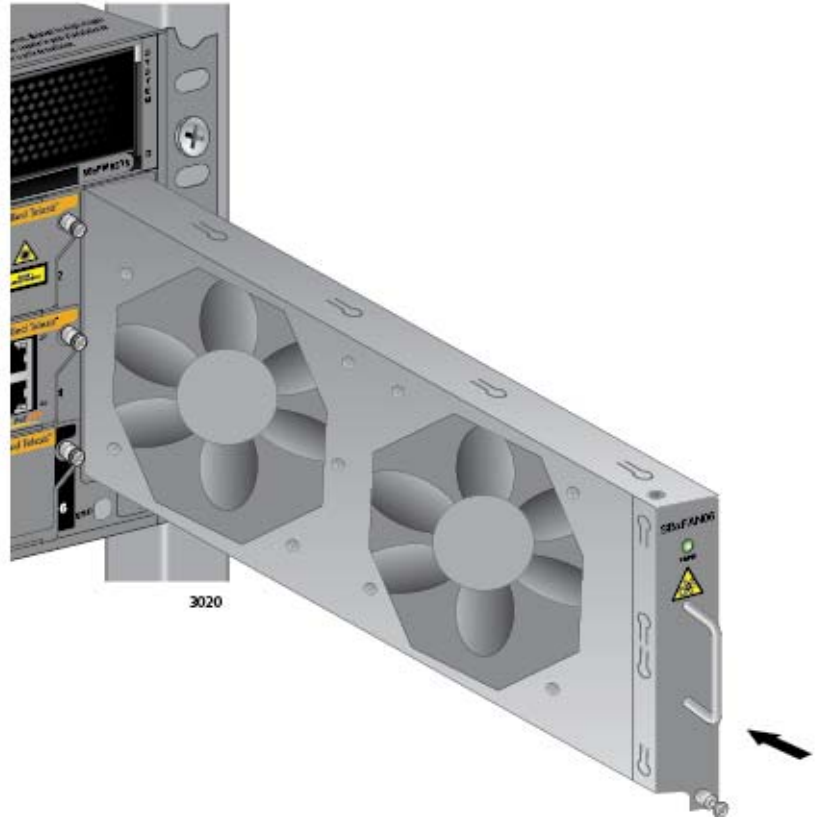

Figure 196. Installing a New AT-SBxFAN06 Fan Module
1. Orient the new module with the LED and module name on top and carefully slide the module into the slot in the chassis. Refer to Figure 196 on page 301.